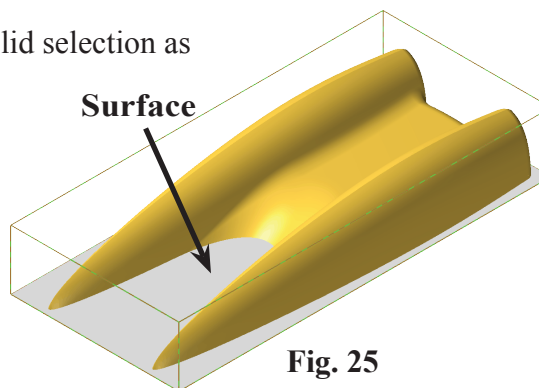

Fig. 25
- Step 6. Click the **surface** as Check surfaces/solid, Fig. 25.